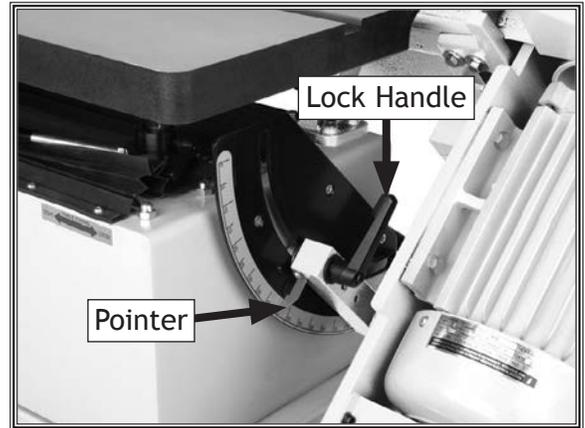

Figure 18. Adjusted sanding angle.
1. Loosen angle adjustment lock handle and tilt sander until the pointer is aligned with desired angle, as shown in **Figure 18**.